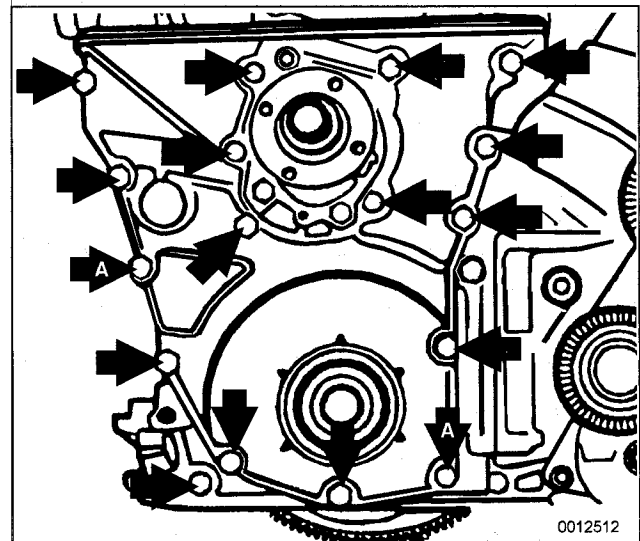

Fig. 7. Lower timing chain cover mounting bolts (arrows). Bolts A are installed through hollow locating dowels.
13. Remove lower timing chain cover mounting bolts and carefully lift cover off. Clean sealing surfaces and gasket grooves. See Fig. 7.